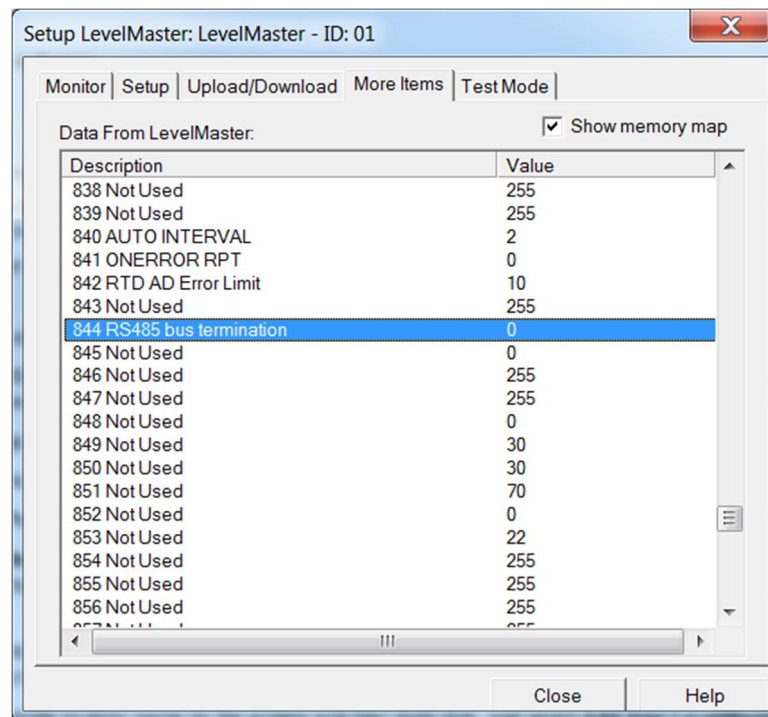

Figure 43: RS-485 termination
4. Scroll down to locate the 844 memory address. The description of this memory location is "RS485 bus termination" (Figure 43).